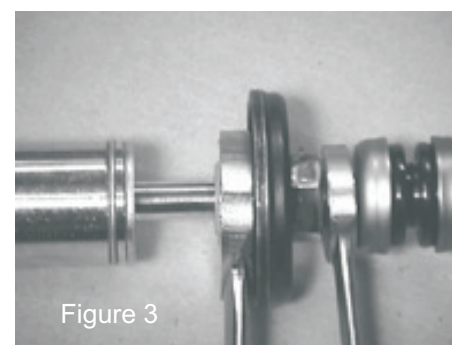

Figure 3
- To remove the damper from the stock mount, loosen the preload collar jam nut a few turns for clearance. Then loosen the Preload Collar a few turns in the same direction. Next, with one wrench holding the flat end on the stock mount—located between the preload collar jam nut and the bushing-cup—and another wrench on the damper shaft, unscrew the damper shaft from the stock mount (see figure 3). The stock mount is assembled with thread-locking agent (loctite) so it may need to be heated with a heat gun before removing. Use caution not to overheat the shock shaft.